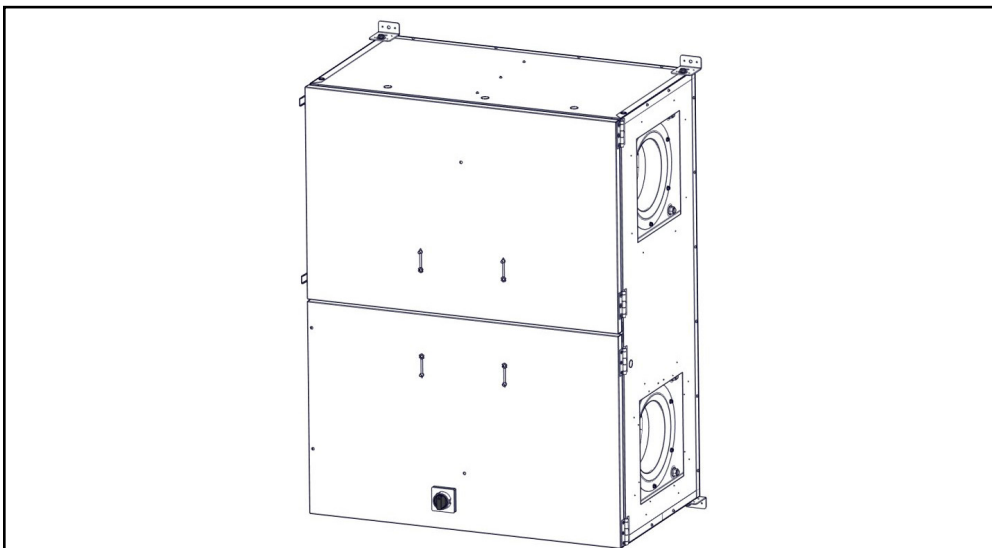

FIGURE 5.3.1 HANGING BRACKET KIT
The HE07IN/HE10IN can also be mounted to structural members using the Hanging Bracket Kit, available as an accessory. Remove the four adjustable legs and use the included $3/8$ "-16 bolts and washers to attach the hanging brackets to the unit as shown in Figure 5.3.1. The hanging brackets may be attached directly to a structural member or used in combination with threaded rod and the hanging vibration isolators (see Section 5.3.4). If the spacing of the unit mount points does not fit the application, the hanging brackets may alternatively be attached directly to the cabinet using (16) #12 x $3/4$ " long self-tapping sheet metal screws (not provided). Ensure that the unit is adequately supported at all four corners and that the placement of the brackets maintains required service clearances.